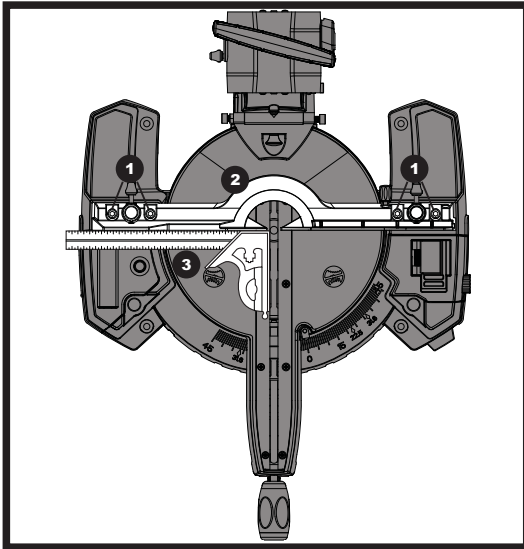

Fig 25
- 1) Loosen the four fence locking bolts (1).
- 3) Using a square (3), lay the heel of the square against the blade and the ruler against the fence(2) as shown.
- 4) Adjust the fence 90° to the blade and tighten the four fence locking bolts. (See fig. 25)